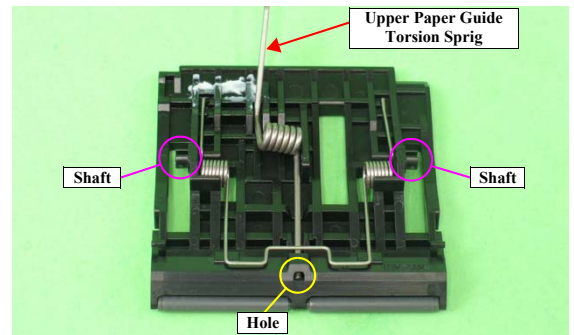

Figure 4-155. Reinstalling the Upper Paper Guide Torsion Spring
- Lift the six Upper Paper Guide Assys from the Main Frame to release the shaft referring to Figure 4-155, and remove the Upper Paper Guide Assys to the rear.